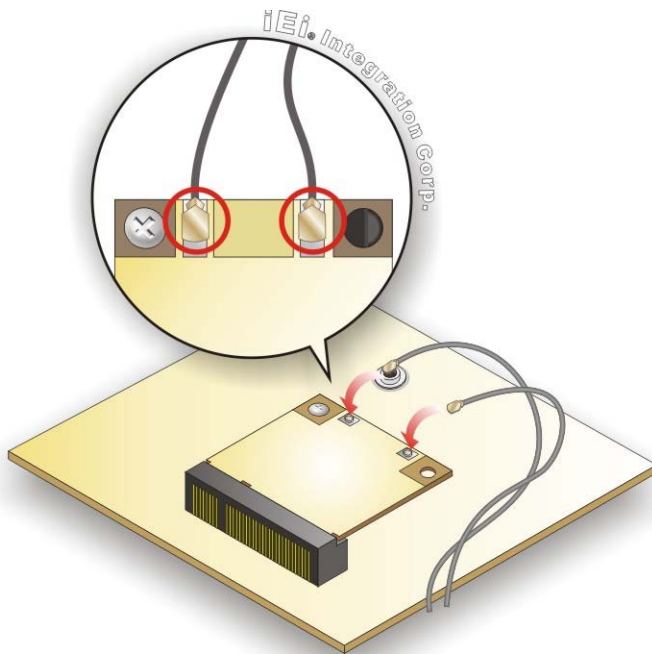

Figure 3-12: Connecting RF Cables
Step 8: Connect the two RF cables to the antenna connectors on the WLAN module (Figure 3-12).